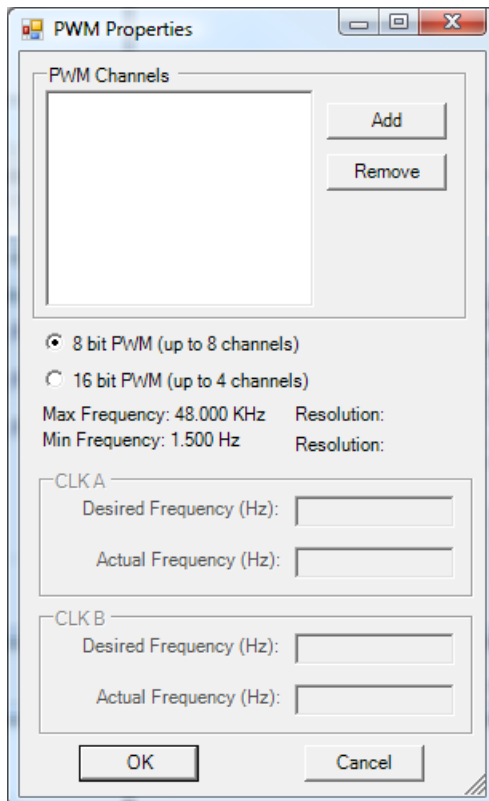

Figure 2.9 - PWM Properties Window
3. Click the **PWM PROPERTIES** button. The PWM Properties Window will open. Refer to Figure 2.9.
7. Enter the desired frequency for Clock A and Clock B (if installed). The HEC-4xxx-E-R has 4 available PWM Channels. These channels are either controlled with Clock A or Clock B. This allows two different PWM frequencies. The Minimum and Maximum frequencies are displayed in the PWM Properties dialog. The frequency for Clock A and Clock B must be in this range. Refer to Figure 2.9.